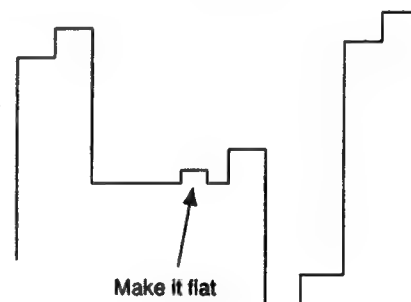

Fig. 5-17
- 5) Adjust **[PHASE NTSC 358 NOR]** so that the burst section of the output waveform will be straight. (Fig. 5-17)
- 2) Make adjustment in the same way as 10-1. shown above by means of **[PHASE NTSC 443 ACC OFF]**. (Fig. 5-17)